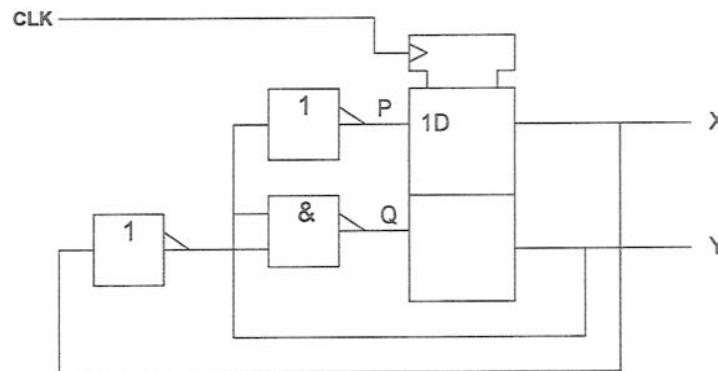

Figure 5.1
a) Figure 5.1 shows a simple clocked circuit. Draw the waveforms for the signals P , Q , X and Y over 5 clock cycles indicating the time at all signal transitions.